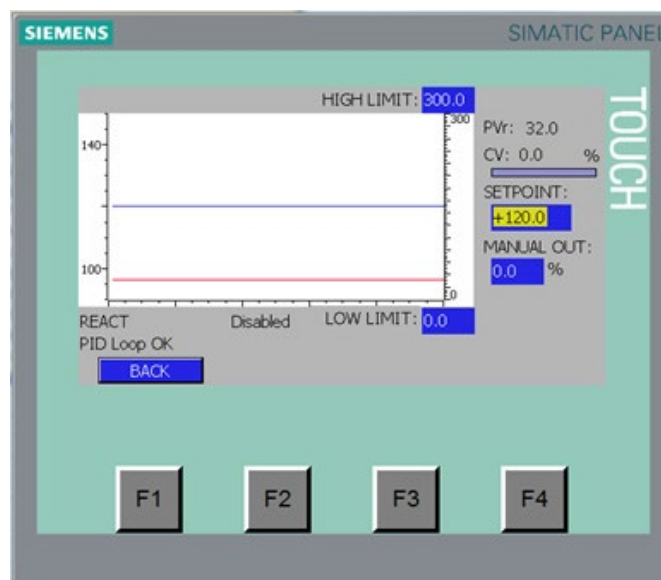

Figure 3-5
2. To see the reactivation inlet and outlet temperatures, press the REACT HeatTo or R_OUT buttons respectively. The following screen will show the detailed reactivation temperature info. See Figure 3-5.